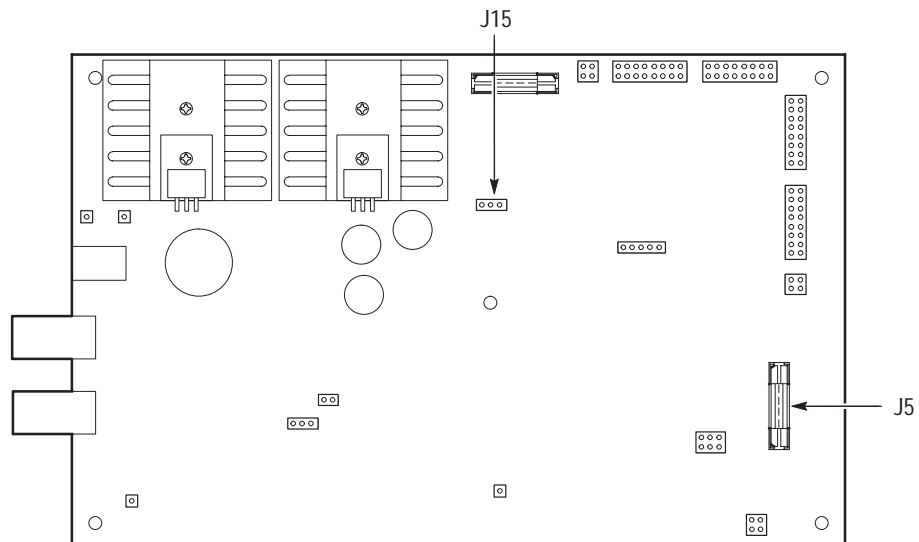

Figure 25: Jumper and connector locations on the test fixture
2. Connect the probe tip to J5 on the the test fixture as shown in Figure 25.